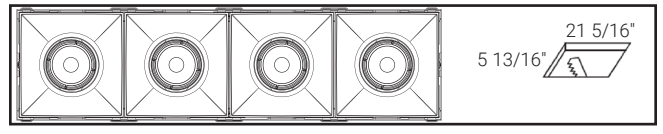

Figure 8.
- 4 Light Engine: 21 5/16" X 5 13/16" (Figure 8)